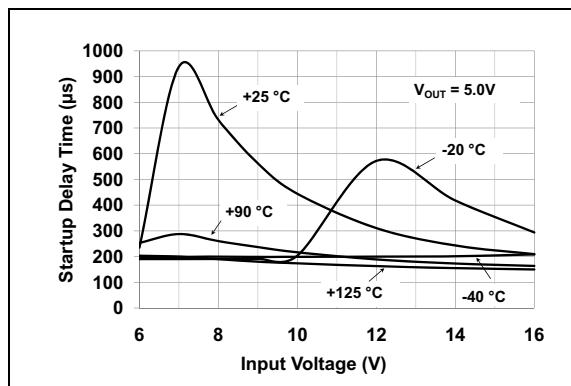

FIGURE 2-34: Start-up Delay from \overline{SHDN} to 90% V_{OUT} .
- 8:** See **Section 4.6 “Shutdown Input (SHDN)”** and **Figure 2-34**.